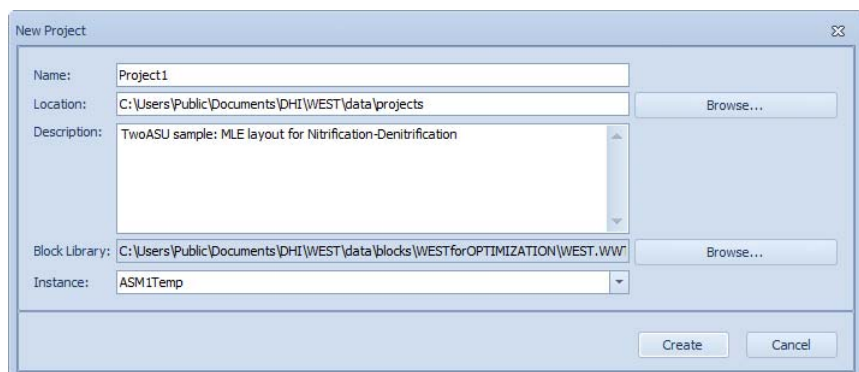

Figure 3.2 Create a New (blank) Project
5. Enter a valid name for the New Project, e.g. 'Project1' and choose the appropriate Model Library 'Instance': 'ASM1Temp' for modelling Carbon and Nitrogen removal based on ASM1. You may also provide a description of the project that will help identifying it for future reference, e.g.: 'TwoASU sample: MLE layout for Nitrification-Denitrification' (Figure 3.2).